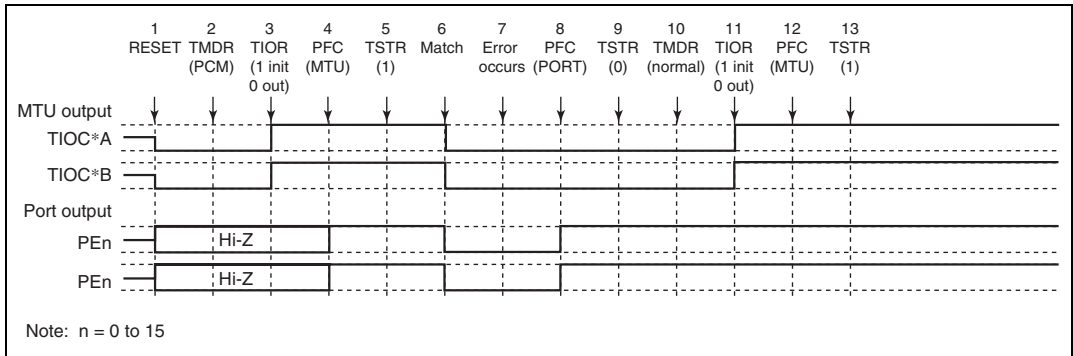

Figure 10.72 Error Occurrence in Phase Counting Mode, Recovery in Normal Mode
(13) Operation when Error Occurs during Phase Counting Mode Operation, and Operation is Restarted in Normal Mode: Figure 10.72 shows an explanatory diagram of the case where an error occurs in phase counting mode and operation is restarted in normal mode after re-setting.
1 to 9 are the same as in figure 10.72.